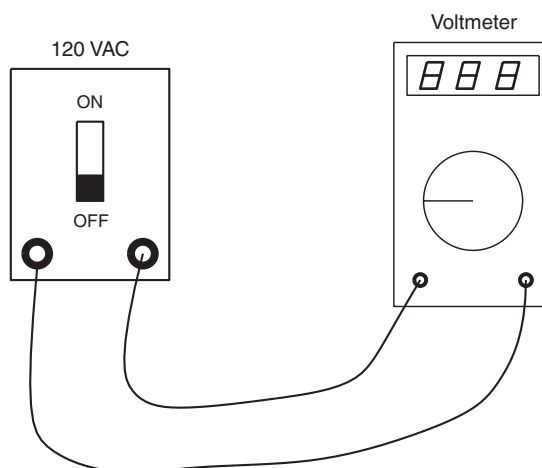

Figure 2-2 Testing the power supply with a voltmeter.
2. Use an AC voltmeter to test the terminal voltage of the AC power supply to be used for this experiment. Make certain that the voltmeter is set to indicate AC volts and that the range setting is greater than 120 volts (Figure 2-2). Turn on the power and measure the voltage of the power supply.